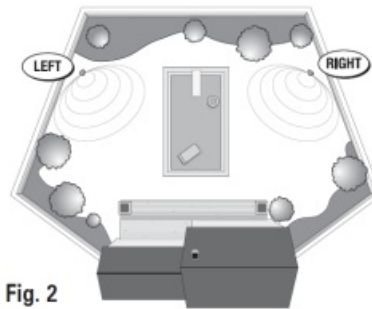

Fig. 2
• Two Speakers, Very Wide Dispersion Stereo Sound (Fig. 2)
Two Speakers, Very Wide Dispersion Stereo Sound (Fig. 2)